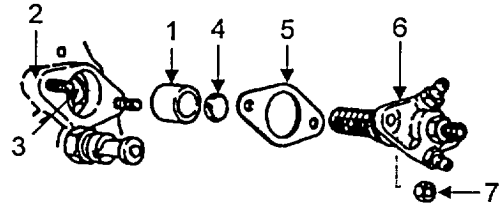

FIGURE 5-4. FUEL INJECTION PUMP-INSTALLATION
a. Install tappet (Figure 5-4, Item 1) into crankcase (2).
b. Turn engine by hand until tappet (1) reaches the lowest point of cam.
c. Position throttle control hand lever so that governor lever slot (3) lies exactly in the center of the tappet bore.
d. Install plate (4) with the flat surface toward injection pump (6). Place appropriate shims from shim set (5) on crankcase studs.
f. Position injection pump (6) so that control sleeve pin is aligned with the slot in the governor lever.
g. Insert injection pump (6) taking care not to move the control sleeve pin out of alignment.